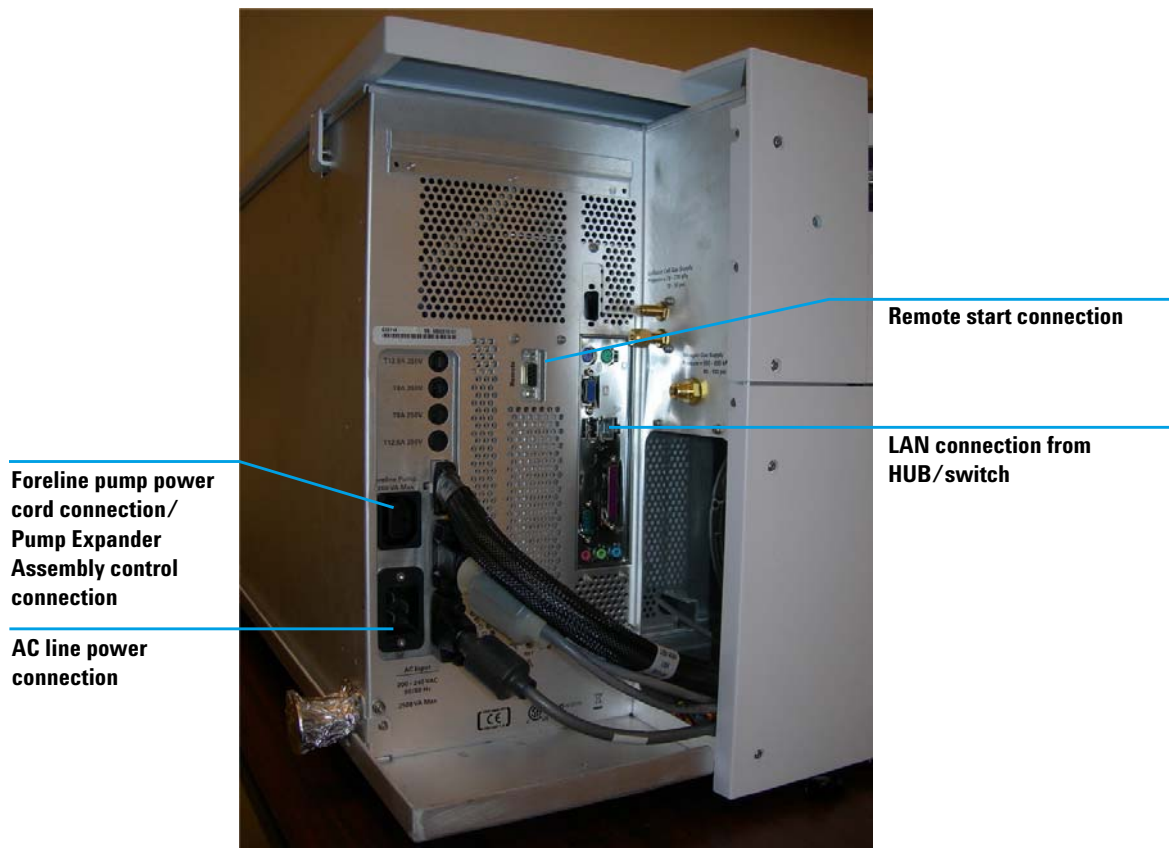
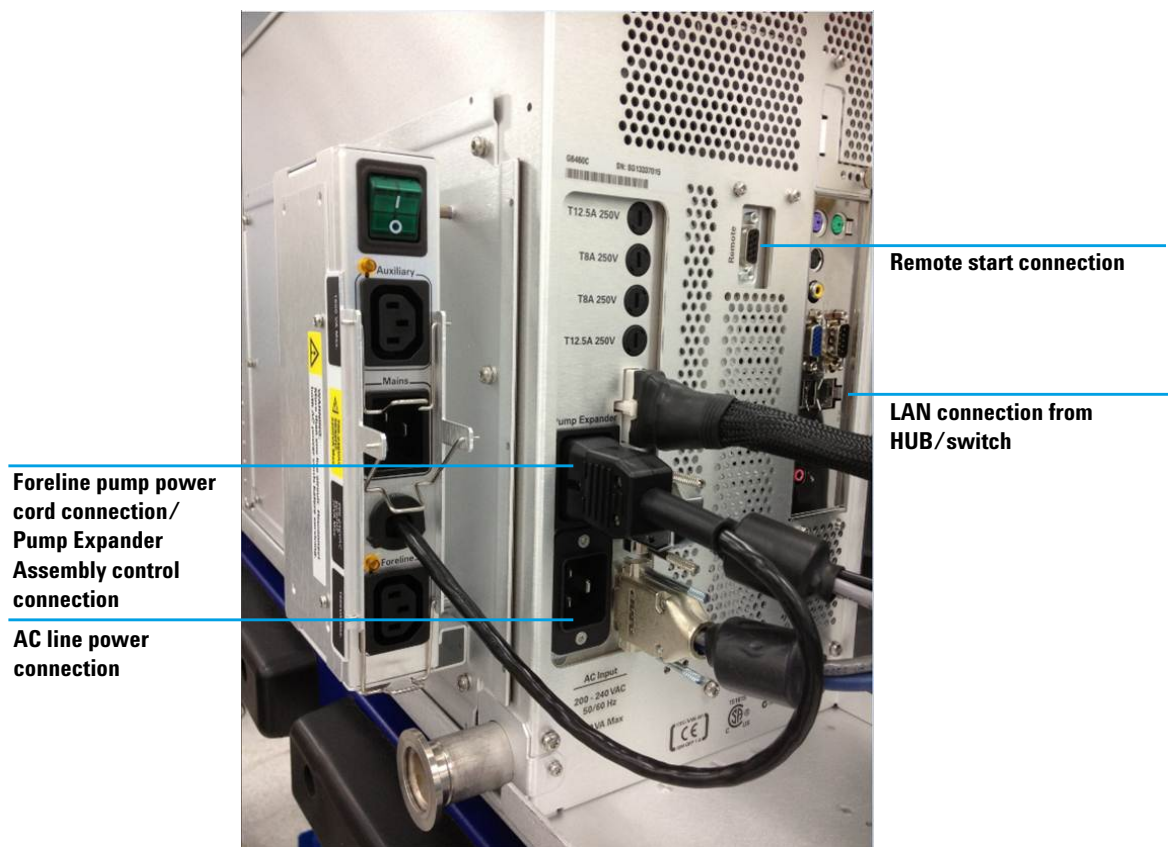

Figure 13 Power and electrical connection at back left side of Triple Quad
Figure 14 Power and electrical connection at back left side of Triple Quad (6460C)
- 11** Connect the remote start cable to its connector on the back left side of the Triple Quad. See Figure 13 or Figure 14.
- 12** Connect the foreline pump power cord into the foreline pump connector on the back left side of the Triple Quad. See Figure 13 or Figure 14.
- 14** Plug the Triple Quad power cord into the Triple Quad power connector on the Triple Quad and the other end of the Triple Quad power cord into the wall outlet. See Figure 13 or Figure 14.